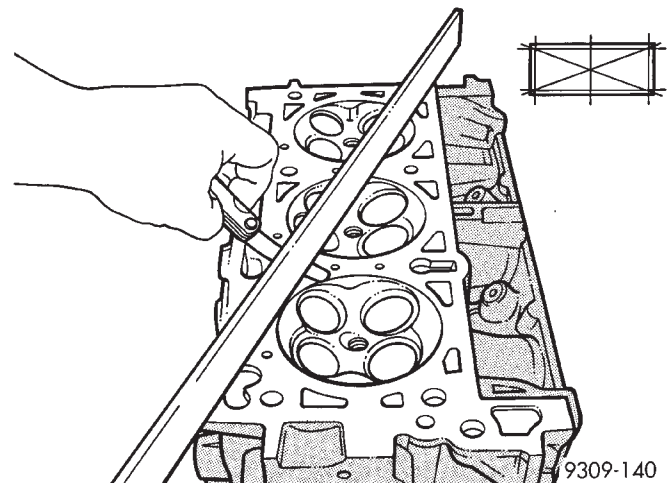

Fig. 94 Checking Cylinder Head Flatness
- (1) Before cleaning, check for leaks, damage and cracks.
- (2) Clean cylinder head and oil passages.
- (3) Check cylinder head for flatness (Fig. 94).
- (4) Cylinder head must be flat within;